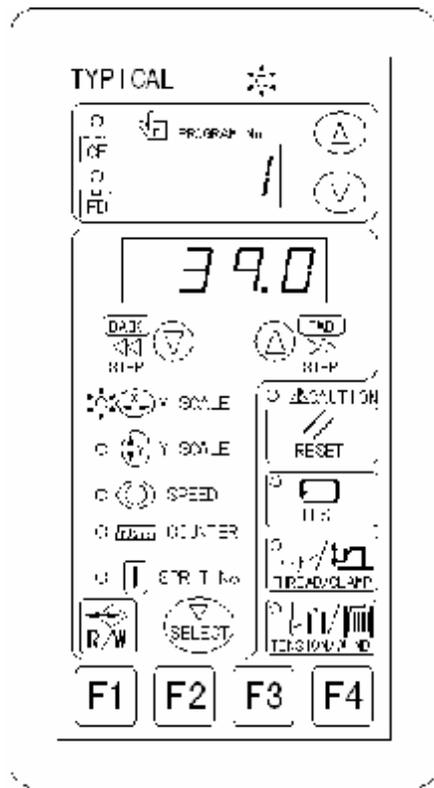
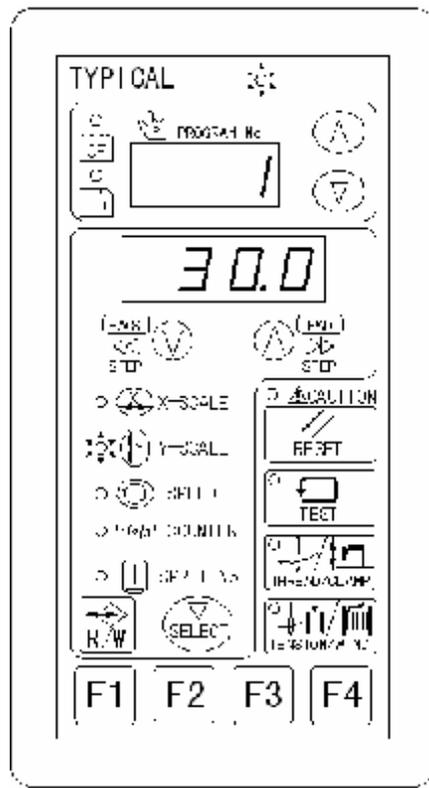

Fig. 5-5
Fig. 5-6
4. When the 402# user parameter is set at ON, the scale of pattern will be displayed in mm; if it is switched to the X (horizontal) scale/Y (vertical) scale display interface (as shown in Fig 5-5 and Fig. 5-6), the adjusting range in the X direction is 7.8~70 (mm) and the adjusting range in the Y direction is 6~50 (mm), the step-length is 0.1 (mm).